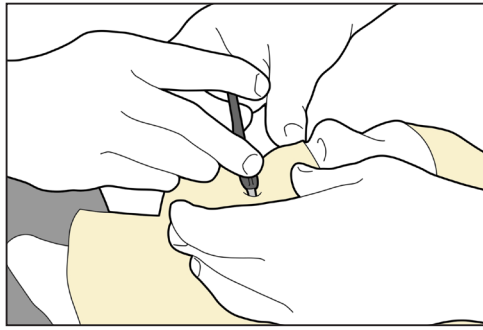

Fig. 12
3. Insert the bite plate through the mask and into the patient's mouth while the mask is still formable (Fig. 12).
4. Use the guide to insert the bite plate to the proper depth (Fig. 12).